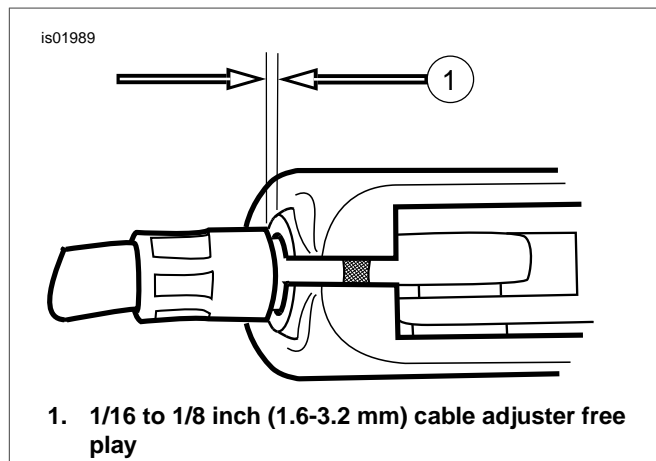

Figure 2. Clutch Cable Adjustment
- e. Turn the cable adjuster away from the jam nut until slack is eliminated at the hand lever. Pull the clutch cable ferrule away from the clutch lever bracket to check the free play. Turn the cable adjuster as necessary to obtain 1/16 to 1/8 inch (1.6-3.2 mm) free play between the end of the cable ferrule and the clutch lever bracket as shown in Figure 2.